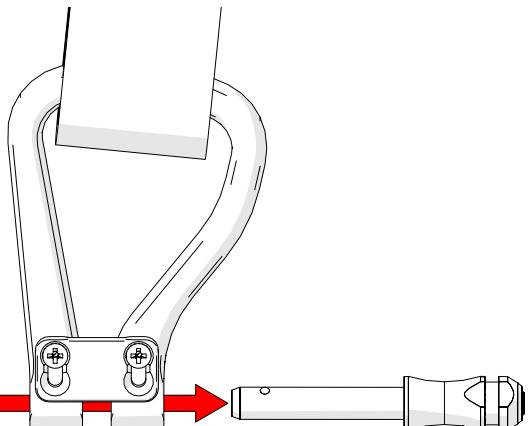

*Fig. 9 - Lift tether attachment points*
1. Lift the two tether attachment points (Fig. 9).